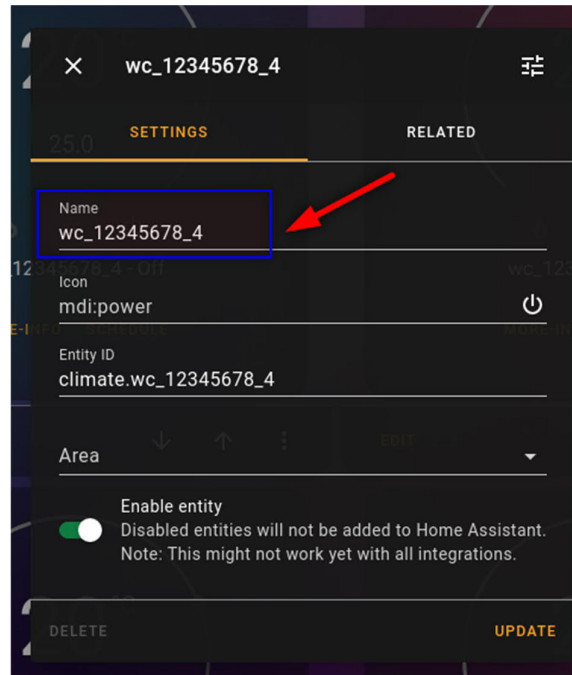

Figure 6.4
- 6.3.2. Then select gear cog icon, top right corner. Now change the name to your preference: Lounge, Bathroom, Nursery etc. select "UPDATE" Figure 6.4